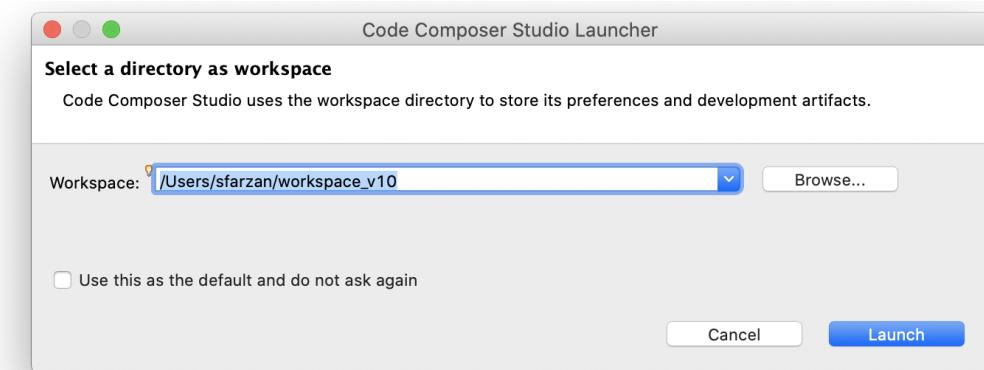

Figure 5: Select a directory as workspace.
- A new window may pop up which asks you to enter a path for the workspace. All the projects and files that you create from here on will be saved at this location. Enter an appropriate address/location. It is recommended to create a new dedicated folder which will serve as your workspace for this course (Figure 5).